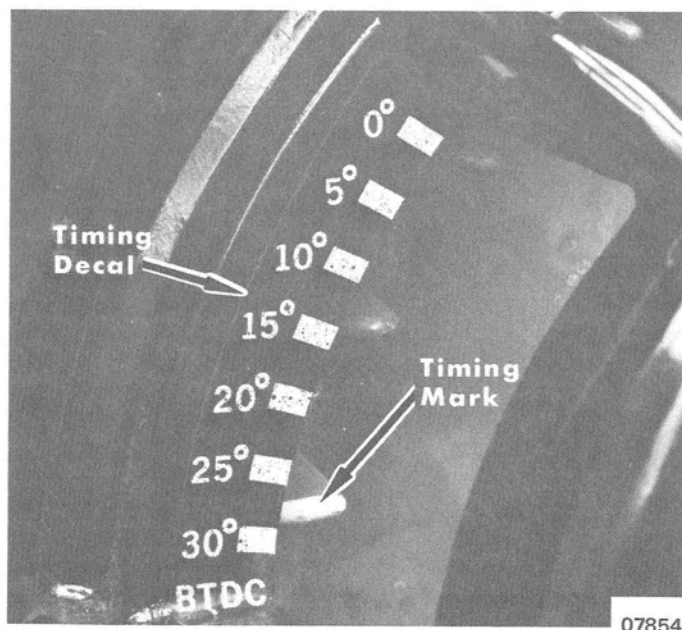

Figure 1. Timing Decal Location
7. Aim timing lite at timing mark (located on fan housing cover). (Figure 1)